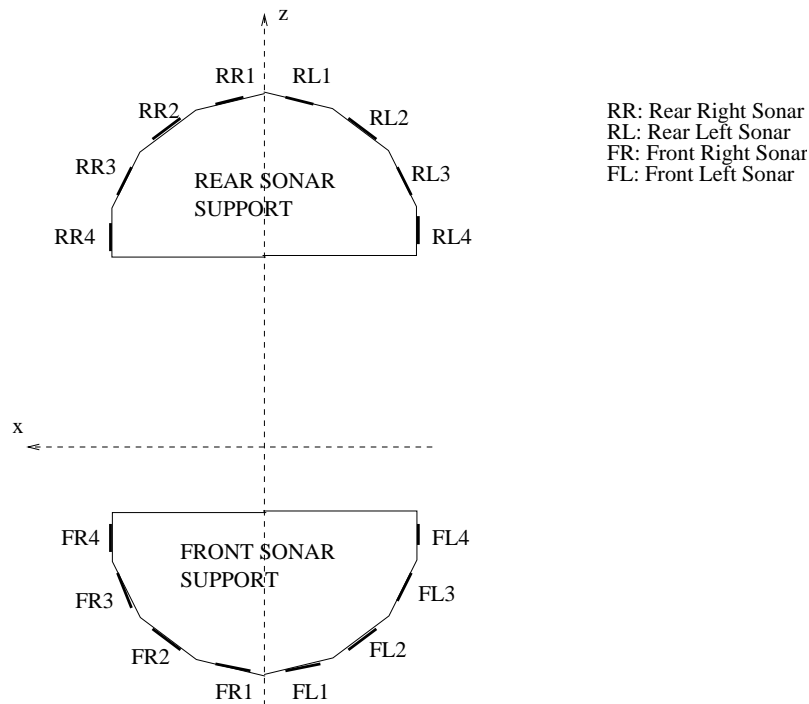
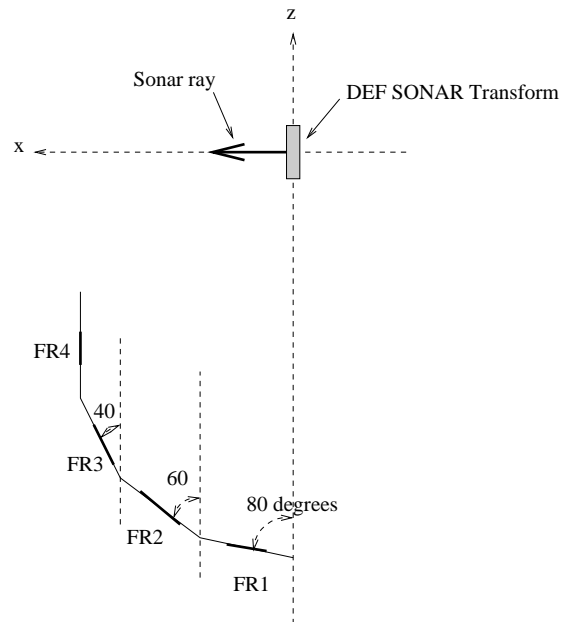

Figure 3.23: Sonars location on the Pioneer 2™ robot
Figure 3.24: Angles between the Pioneer 2™ sonar sensors
- for the 16 sonars: 16 `DistanceSensor` nodes. Each `DistanceSensor` node contains a `Transform` node. The `Transform` node has a `Shape` node containing a geometry `Cylinder`. See figure 3.23 and the text below for more explanation.
The principle is the same as for the *kiki* robot. The sonars are cylinders with a radius of 0.0175 and a height of 0.002. There are 16 sonars, 8 on the front of the robot and 8 on the rear of the robot (see figure 3.23). The angles between the sonars and the initial position of the `DEF SONAR` `Transform` are shown in figure 3.24. A `DEF SONAR` `Transform` contains a `Cylinder` node in a `Shape` node with a rotation around the z axis. This `DEF SONAR` `Transform` must be rotated and translated to become the sensors `FL1`, `RR4`, etc.